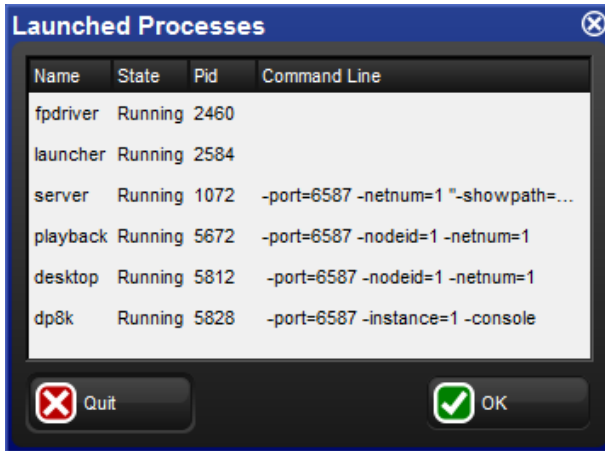

Figure 33.1. The Launched Processes window
1. Pig + Open + Backspace : open the Launched Processes window; see *Figure 33.1, “The Launched Processes window”*.